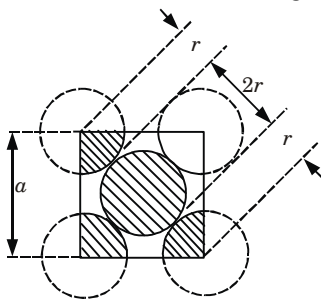

Fig. 1.6.1. Atomic concentration in an FCC lattice.
1. As we know, the structure of lead is FCC (Fig. 1.6.1.)